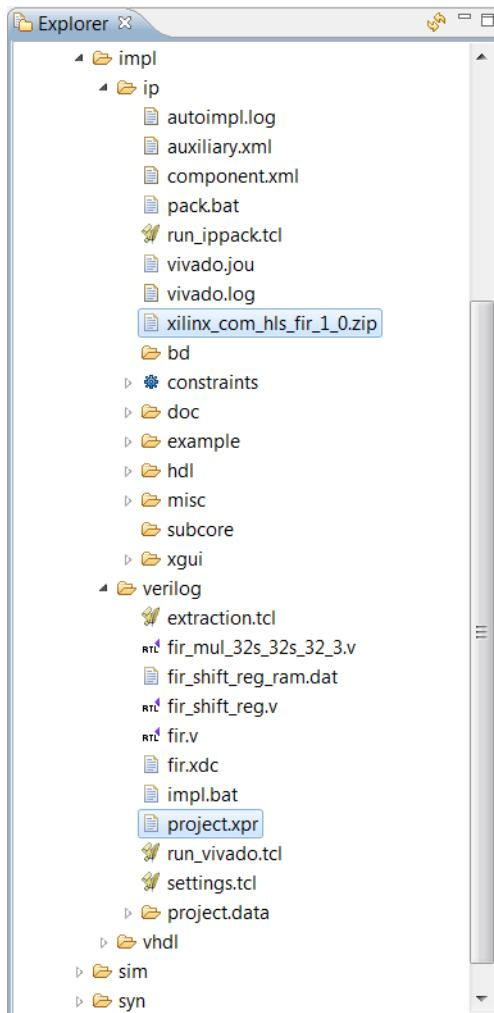

Figure 2-15: RTL Verification Results
6. Expand the **ip** folder and find the IP packaged as a zip file, ready for adding to the Vivado IP Catalog (Figure 2-15).
Note: In Figure 2-15, if you expand the Verilog or VHDL folders inside the **impl** folder, there is a Vivado project ready for opening in the Vivado Design Suite.